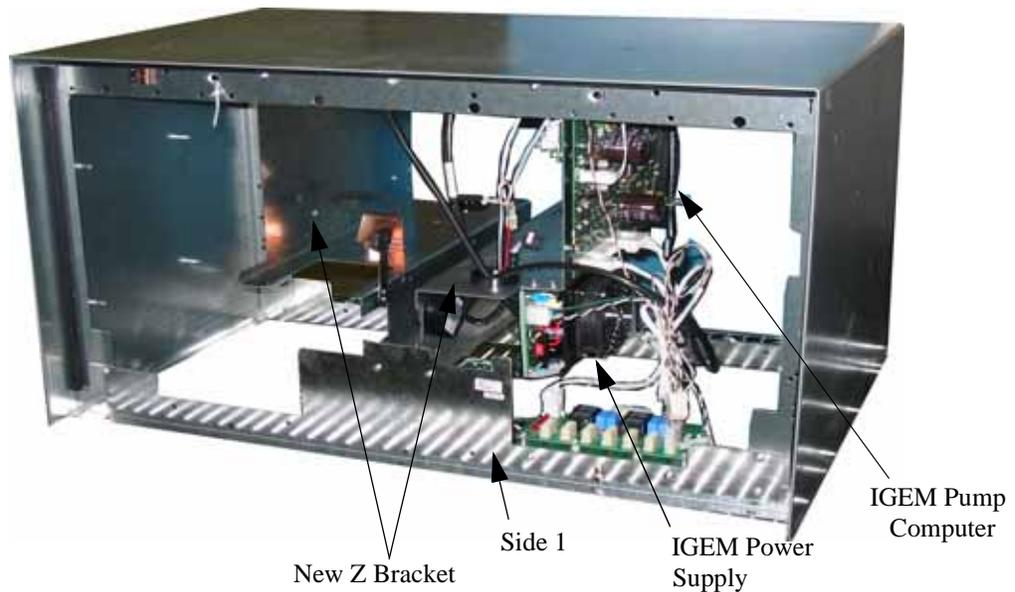

Figure 3-5 IGEM Electronics Head
4. Re-install the IGEM pump computer that was removed earlier. See Figure 3-5.